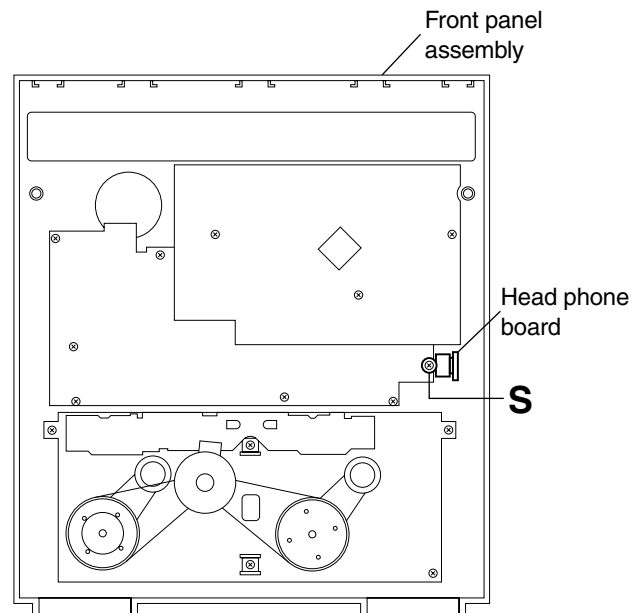

Fig.23
■ Removing the head phone board (See Fig.23)